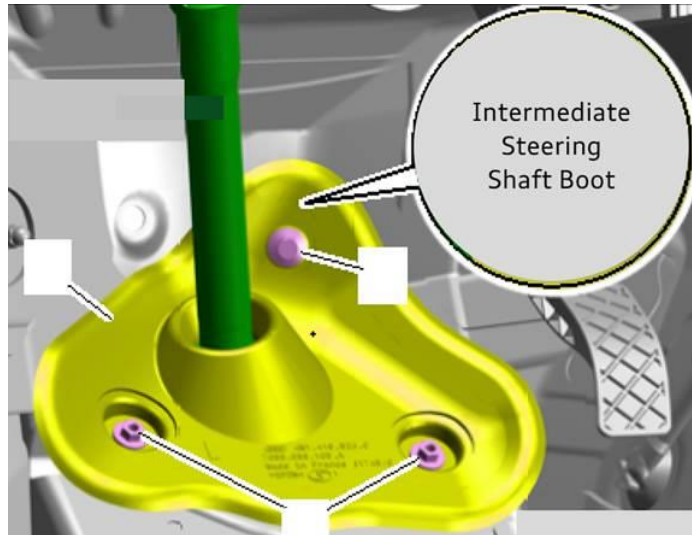

Figure 1. Intermediate steering shaft boot.
1. From inside the vehicle place a shop rag/towel around the intermediate steering shaft in the area where it passes through the boot, also covering the entire boot (Figure 1).